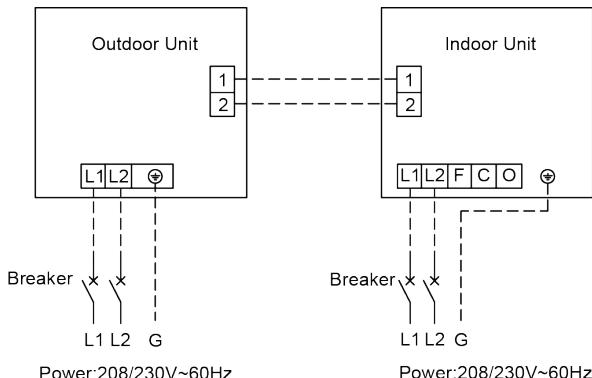

Fig. 4.40
- ④ The high-voltage and low-voltage lines should be fixed separately and securely, with internal big clamps for the former and small clamps for the latter.
- ⑤ Tighten the indoor/outdoor connection cord and power cord respectively on the terminal boards with screws. Faulty connection may cause a fire.
- ⑥ If the indoor unit connection cord (to the outdoor unit) and power supply are wired incorrectly, the air conditioner may be damaged.
- ⑦ Connect the indoor unit connection cord properly based on the corresponding marks as shown in Fig. 4.40.
- ⑧ Ground both the indoor and outdoor units by attaching a ground wire.
- ⑨ Unit shall be grounded in compliance with the applicable local and national codes.